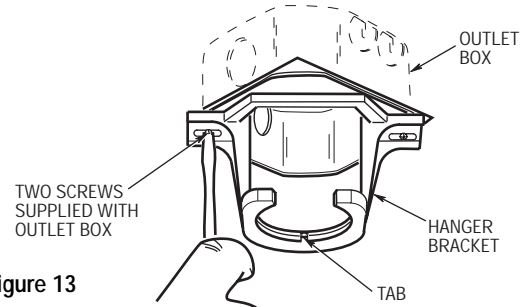
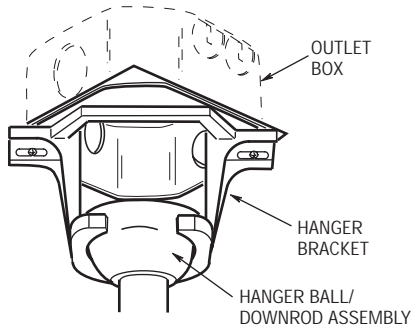

Figure 13
Figure 14
- 1. Securely attach the hanger bracket to the outlet box using the two screws supplied with the outlet box. (Figure 13).
- 2. Carefully lift the fan and seat the hanger ball/downrod assembly on the hanger bracket that was just attached to the outlet box (Figure 14). Be sure the groove in the ball is lined up with tab on the hanger bracket (Figure 13).